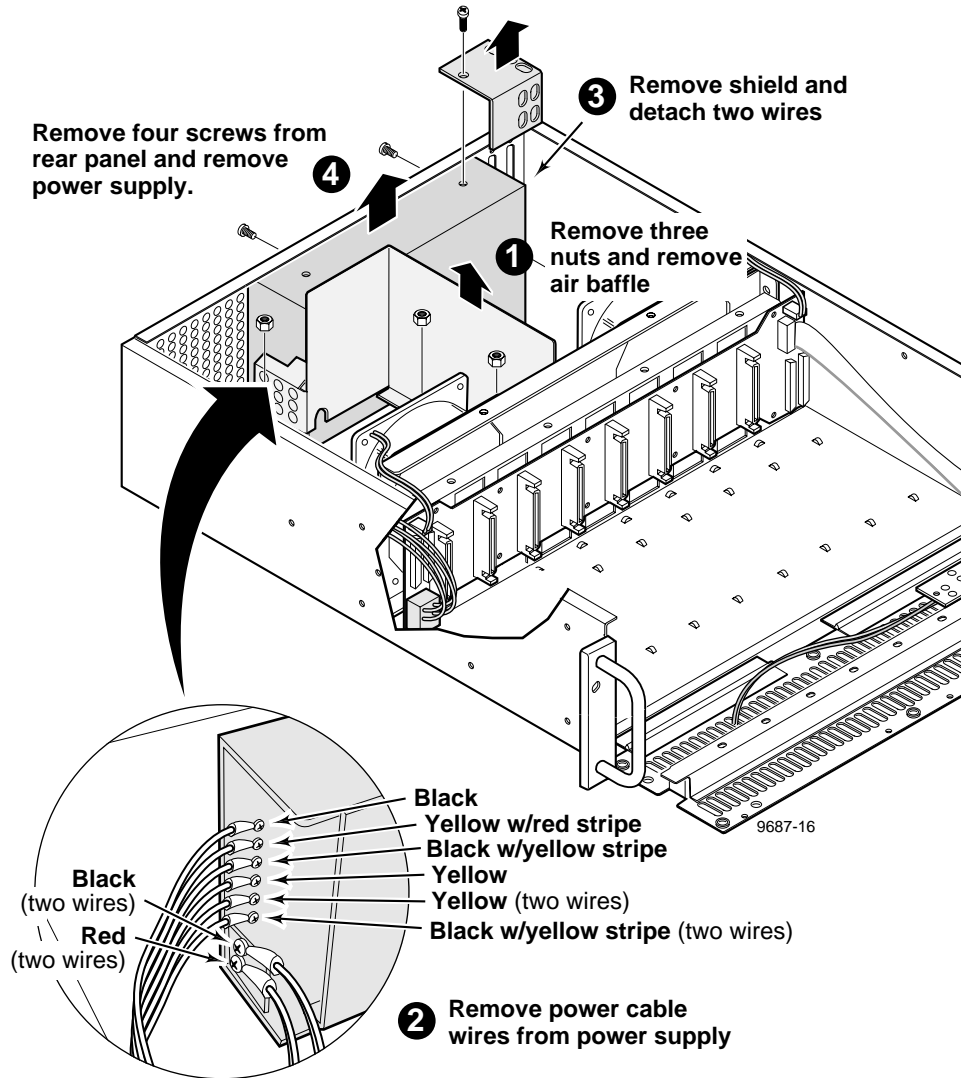

Figure 3-13. PDX208 Power Supply Removal
Figure 3-13 shows removal of the Power Supply (item 1 in Table 3-1).
4. Remove the shield from the right side of the Power Supply (Figure 3-13)
5. Remove the mounting nuts from the air baffle and lift the baffle up and out of the chassis (Figure 3-13).
7. Disconnect the SCSI Distribution board cable wires from the left side of the Power Supply (Figure 3-13).
8. Disconnect the black and white Switch cable wires from the right side of the Power Supply (Figure 3-13).
1. Connect the cable wires from the Switch to the right side of the Power Supply (Figure 3-13).
2. Connect the SCSI Distribution board cable wires to the left side of the Power Supply (Figure 3-13).
3. Position the Power Supply at the rear panel and mount with the screws previously removed (Figure 3-13).